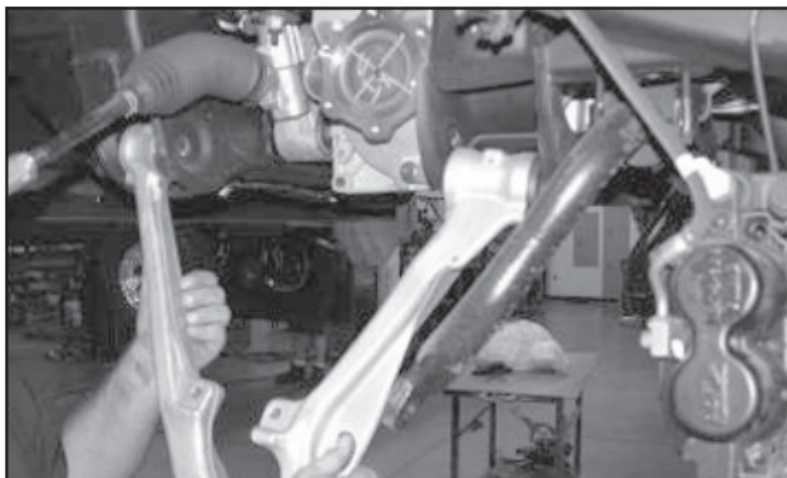

FIGURE 8 - STEP 8
8. Remove the lower control arms from the frame and retain them with the hardware for reinstallation. SEE FIGURE 8